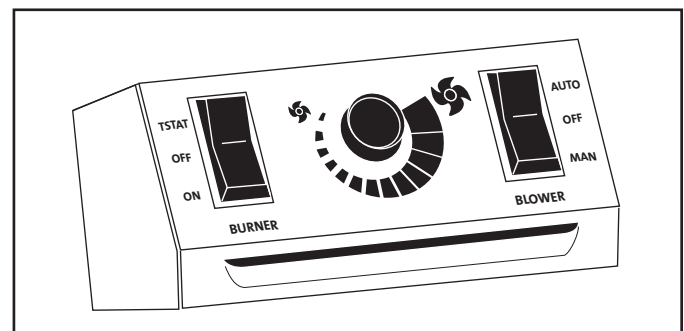

Figure 30. Burner Switch and Optional Blower Controls
- Once the pilot is lit, burner operation is controlled by the rocker switch located at the left corner of the rear shroud. See fig. 30.